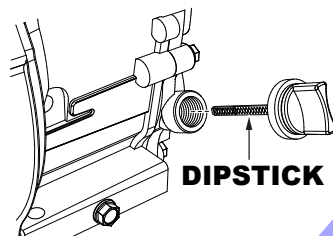

Figure 3. Engine Oil Dipstick Removal
2. Remove the dipstick from the engine oil filler hole (Figure 3) and wipe clean.